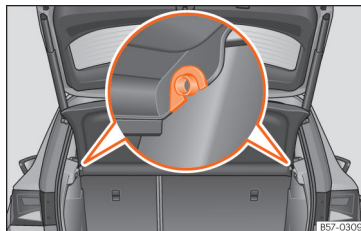

Fig. 168 In the boot: removing and installing the shelf.
- Remove the rear shelf from the side supports >>> Fig. 168 by pulling it upwards and then take it out.
- Insert the cover horizontally so that the “recess” fits onto the axis of the supports >>> Fig. 168 and press down until it engages.